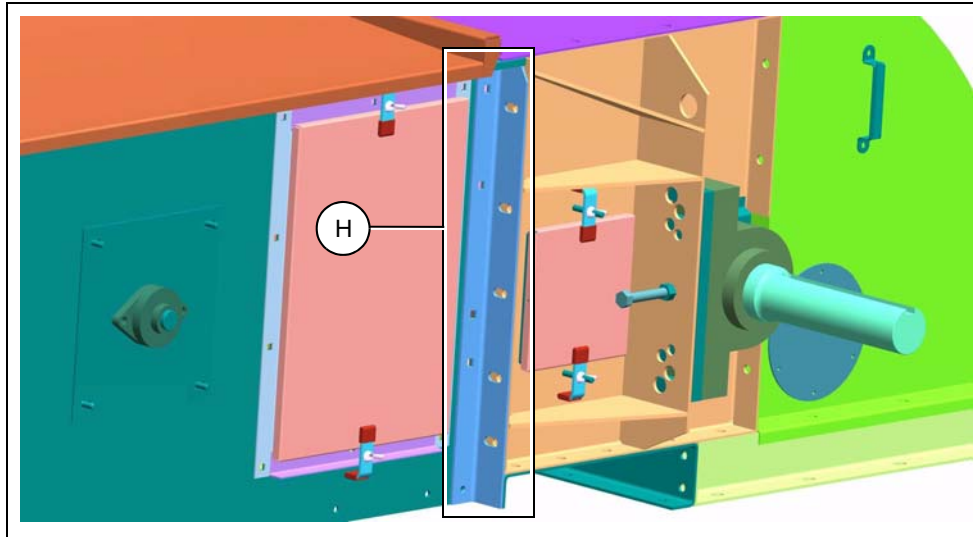

Figure 4D
4. The inspection door end of each intermediate section has adapter angles with slotted holes for bolting to head or tail sections. (See Figure 4D.)